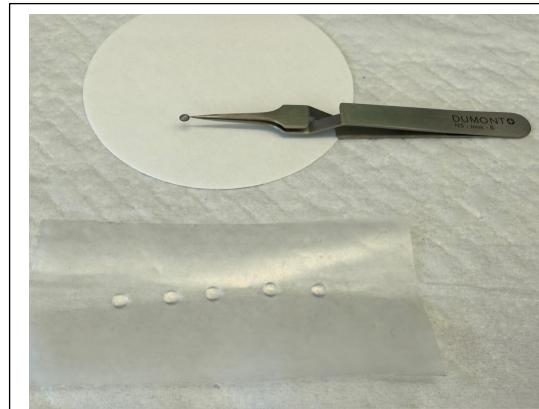

Figure 2. Five 20 μ L drops are lined up on a strip of parafilm for blotting. A grid, held by self-closing tweezers, and a clean filter paper are ready.
3.4.1. Pipette 2 drops of distilled water and 3 drops of stain on a strip of parafilm. Drops of ~5-20 μ L are recommended (Figure 2). Buffer can be used in place of water for sensitive samples, but water is recommended and generally leads to better stain quality.
3.4.2. Pick up a grid with self-closing tweezers, carbon side facing up (Figure 2).